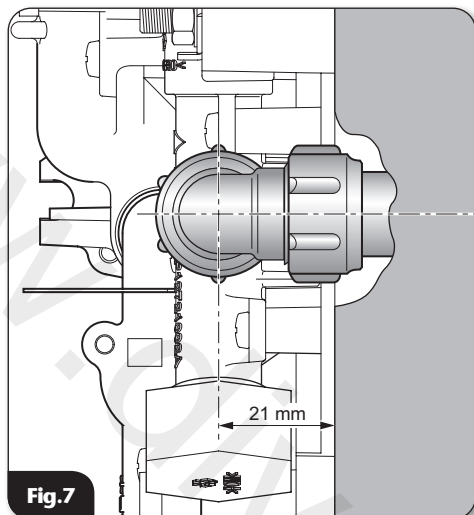

Fig.7
- Compression fittings **MUST** be used to connect to the inlet of the shower (**fig.7**). Push-on fittings must **NOT** be used as full engagement cannot be guaranteed.
- If installing a feed pipe from the back or bottom, the centre of the inlet valve to the wall surface is 21mm (**fig.7**).
- If installing a feed pipe from the rear or bottom, the centre of the inlet valve to the wall surface is 21mm (**fig.7**).